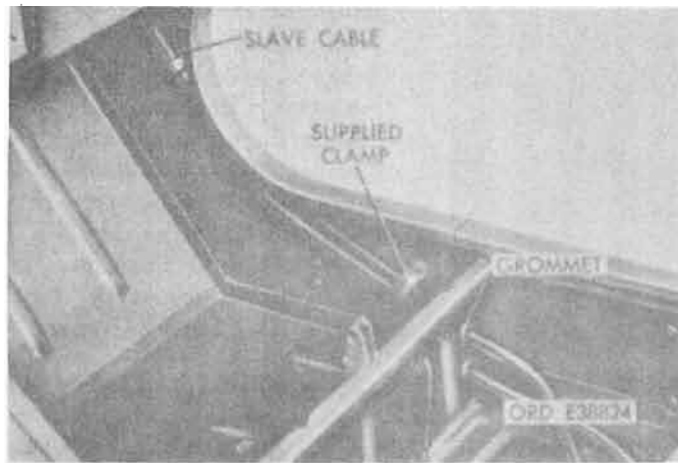

Figure 18-46. Slave receptacle cable installed.
e. Install grommet in $7/8$ -in. diameter hole in right seat riser (fig. 18-46).
g. Secure receptacle and battery cables to right body side with supplied clamp and original screw, washers, and nut (fig. 18-46).
f. Check operation of battery compartment damper actuator. With a temperature of approximately 100°F ., in the battery compartment, the actuator should close the damper. When the temperature in the battery box drops to approximately 70°F ., the actuator should open the damper, permitting heated air to again flow to the batteries. Perform test by removing battery compartment and battery box covers after the damper door has closed. This will allow the thermostat to cool more rapidly, causing the actuator to open the damper. If the damper opens when it should close, reverse the thermostat lead wire connections at the terminal strip of the actuator (fig. 18-46). Repeat test.
(1) Remove five-pin connector plug from control box.
(2) Press indicator light. Maintain finger pressure on light. Pull circuit breaker reset button out to "open" position, using fingernail pressure under the lip of button. Indicator light should go out. Push reset button. Indicator light should come on. Release indicator light.